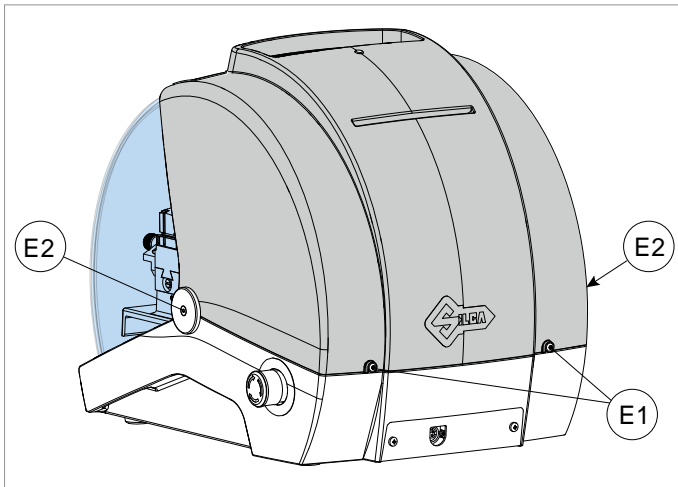

Fig. 45
- 2) Loosen the 2 screws (E1) and the 2 screws (E2) (Fig. 45).